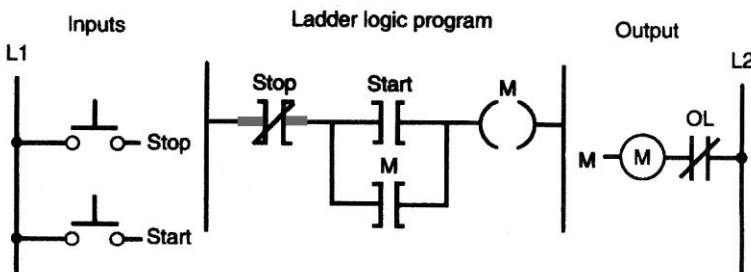

Figure 9-16 Program for assignment 8.
8) Enter the simulated start/stop pushbutton program of Figure 9-16 in the PLC.